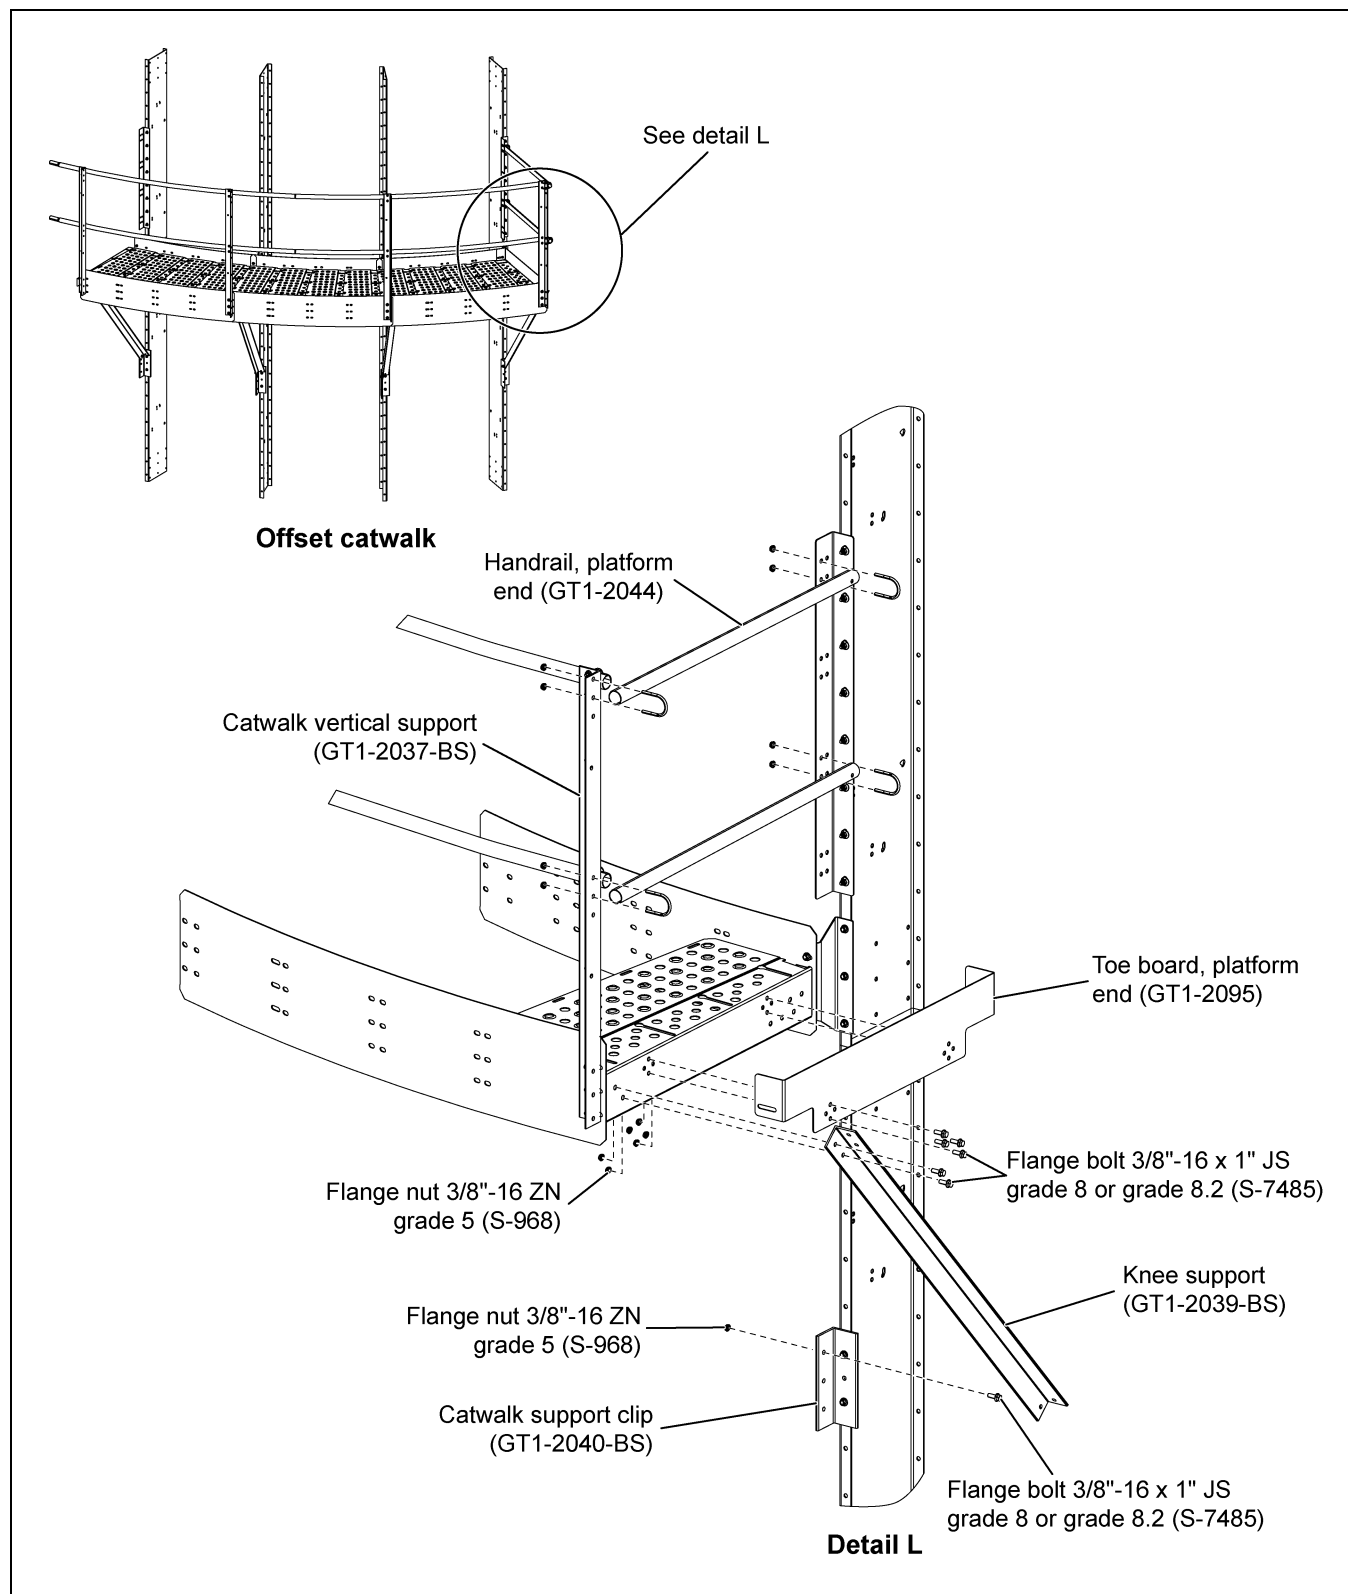
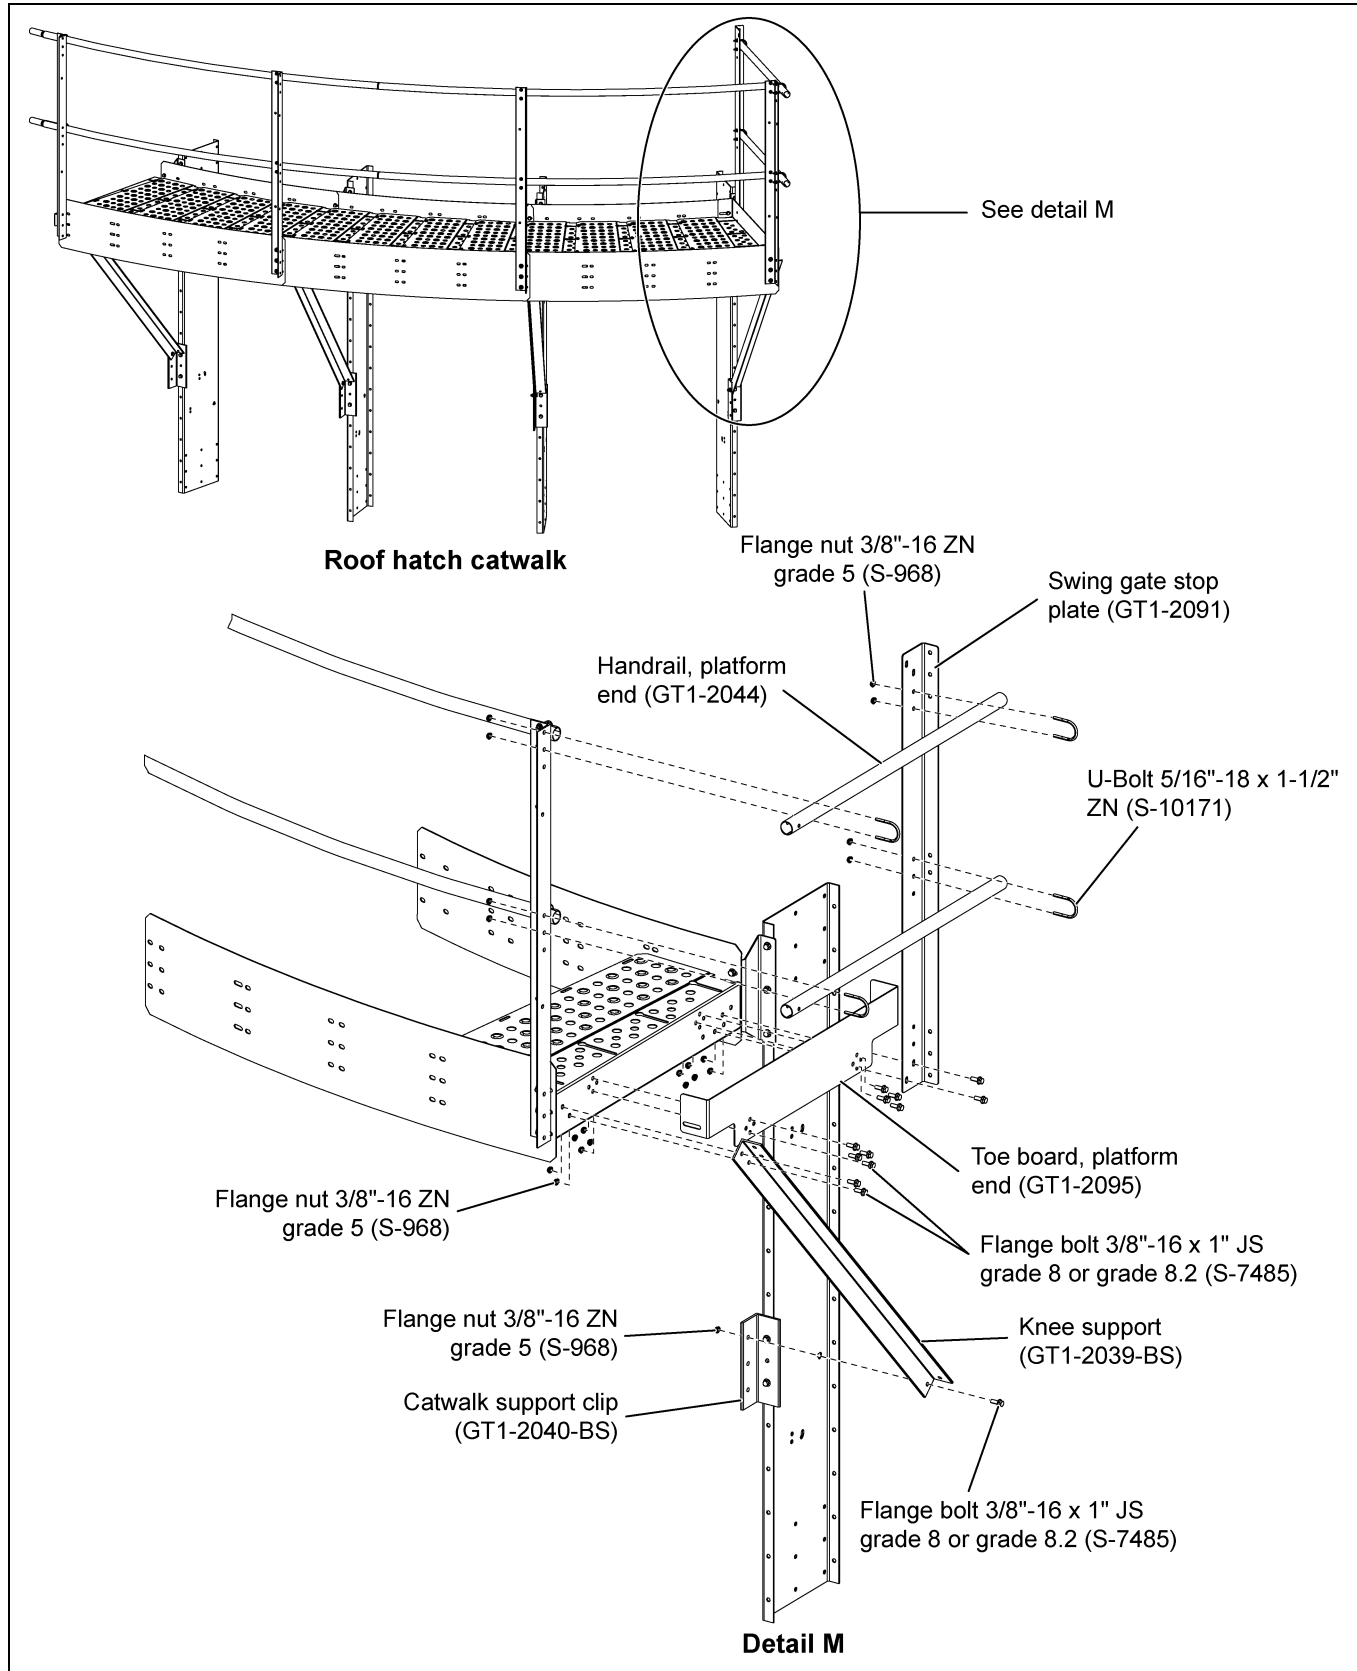

Figure 6V Offset Platform End Handrail (GT1-2044) Installation
Figure 6W Roof Hatch Platform End Handrail (GT1-2044) Installation
3. Install the platform end handrail (GT1-2044) to the catwalk vertical support (GT1-2037-BS) and the platform end plate (GT1-2045). (See Figure 6V below and Figure 6W on Page 63.)